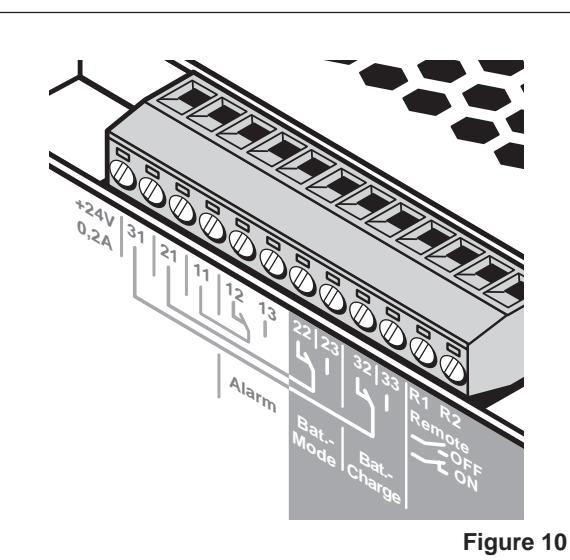

Figure 10
5.7. Remote Shutdown ("Remote", Fig. 10)